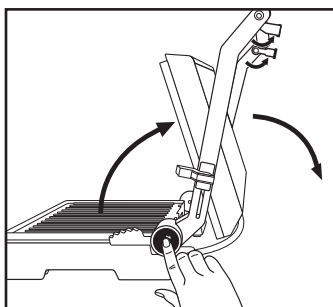

Fig. 1
- 1) Fold out both support feet 1 (Fig. 1).
- 2) Press the unlocking button 180° 3 (Fig. 1) and open the appliance lid until both hotplates 10 can be used as a table grill.